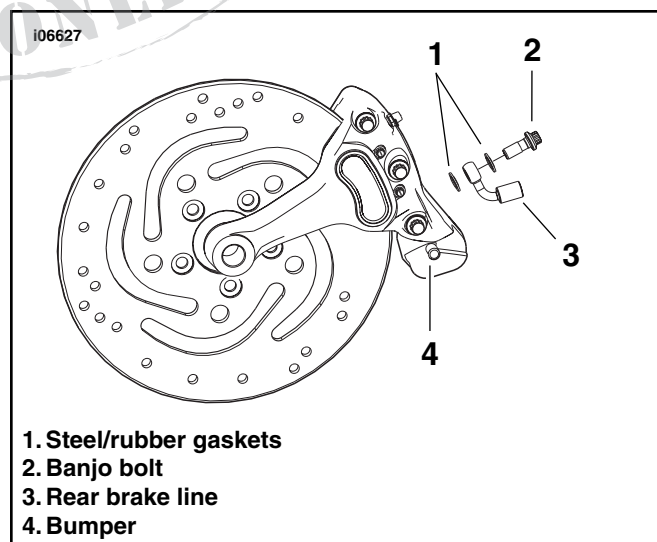

Figure 4. Rear Brake Caliper Removal
1. See Figure 4. Apply isopropyl alcohol to the rubber bumper (4) on the brake caliper to ease removal.
3. See Figure 4. Remove the banjo bolt (2) fastening the rear brake line (3) to the stock rear brake caliper. Save the banjo bolt for brake caliper installation and discard the steel/rubber gaskets (1).
1. See Figure 4. Position the caliper (3) between the brake disc (5) and the rear fork (1). The weldment (2) on the fork should fit between the notch and rubber bumper (4) on the caliper. Verify that the full length of the rubber bumper contacts the underside of the weldment.